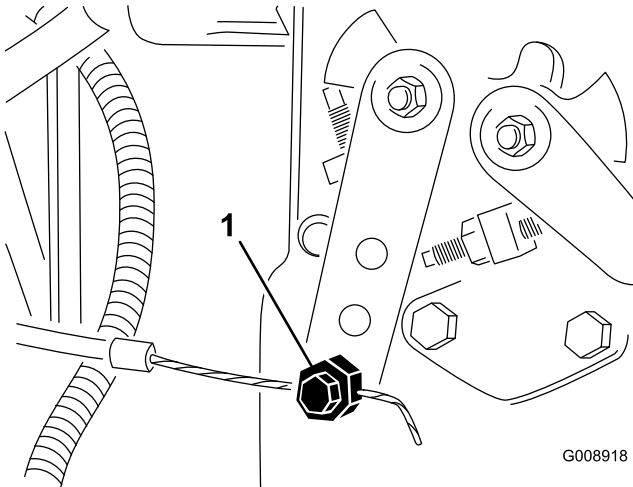

Figure 54
2. Loosen the throttle cable connector on the injection pump lever arm (Figure 54).